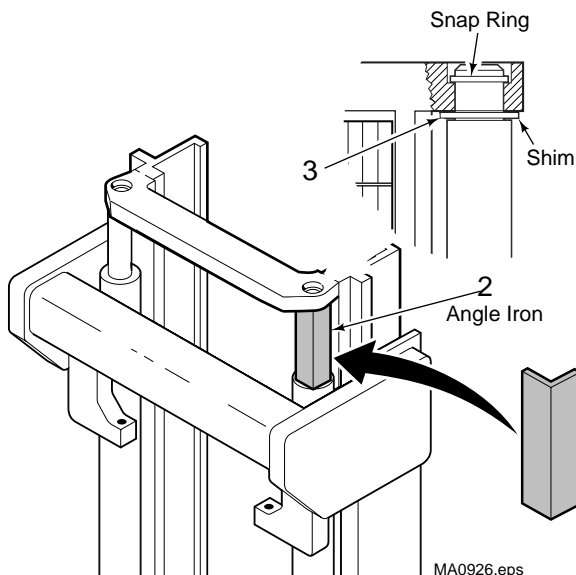

Figure 41. Cylinder Shim Installation
3. Install shim(s) part number 683797 to the main lift cylinder rod below the inner upright crossmember. See Figure 41.